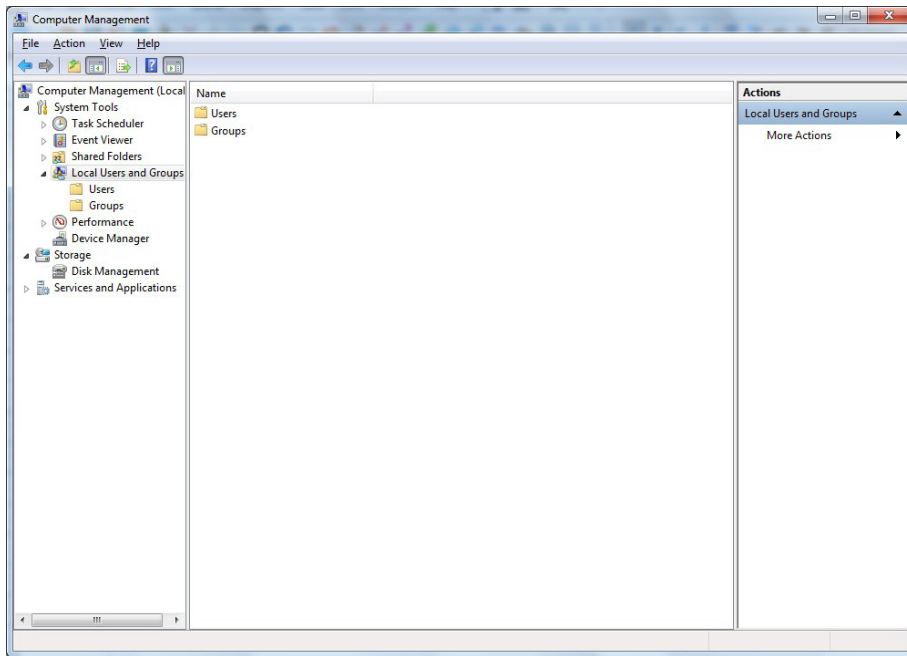

Figure 161 - Local Users and Groups
1. Select **Control Panel > Administrative Tools > Computer Management > Local Users and Groups** and Figure 161 appears.